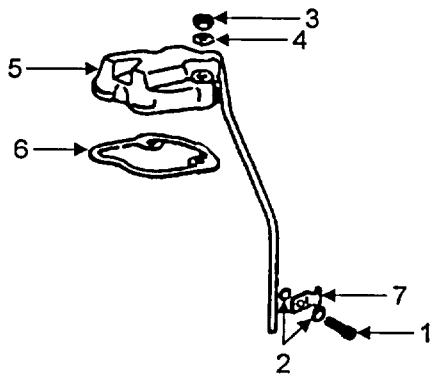
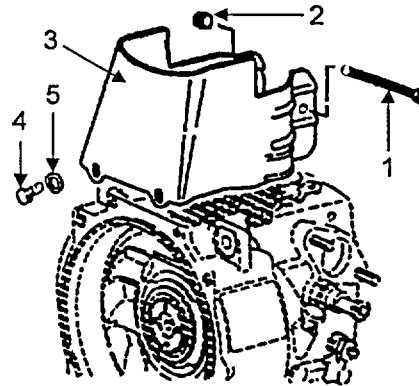

FIGURE 5-28. VALVE COVER
FIGURE 5-29. COWLING
e. Install four nuts (1) on the four studs (2). Tighten nuts equally and crosswise to a torque of 26 lb -ft (35 Nm).
a. Install new gasket (Figure 5-28, Item 6) on cylinder head.
b. Install cylinder head cover (5) on gasket (6).
c. Install two spring washers (4) and nuts (3). Tighten securely.
d. Install pipe clip (2), washers (7), and screw (1).
e. Install cowling (Figure 5-29, Item 3) on engine.
f. Install screw (1) and hex nut (2).
g. Install screws (4) and washers (5).